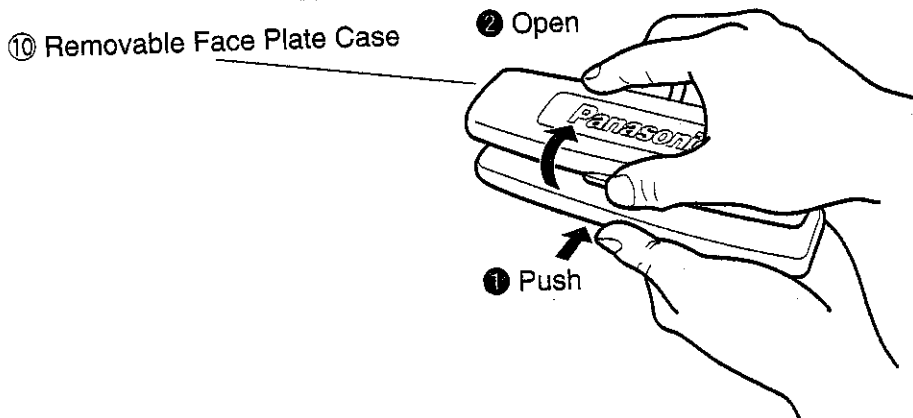

Fig.3
- ④ As shown in Fig.3, insert the removable face plate with the arrow pointing toward the removable face plate case until you hear a "click". Keep the removable face plate in the case. Then, you can bring the plate safely.